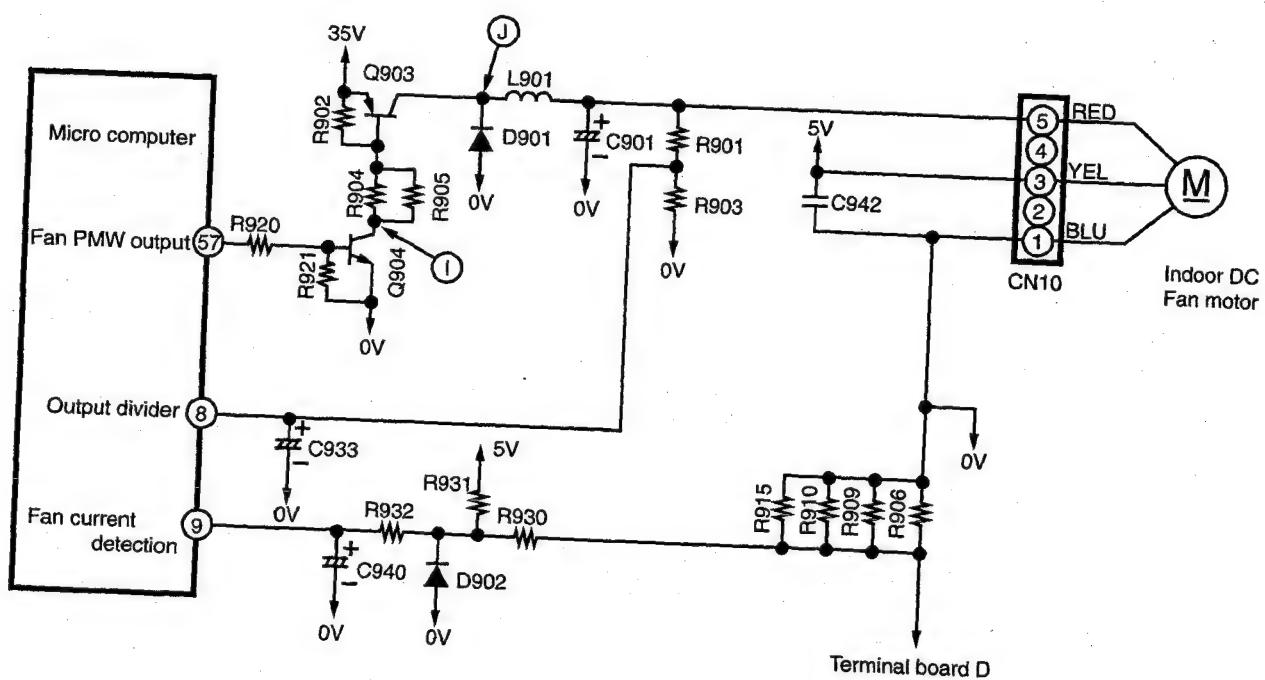

Fig. 8-1
- Fig. 8-1 shows the indoor DC fan motor drive circuit